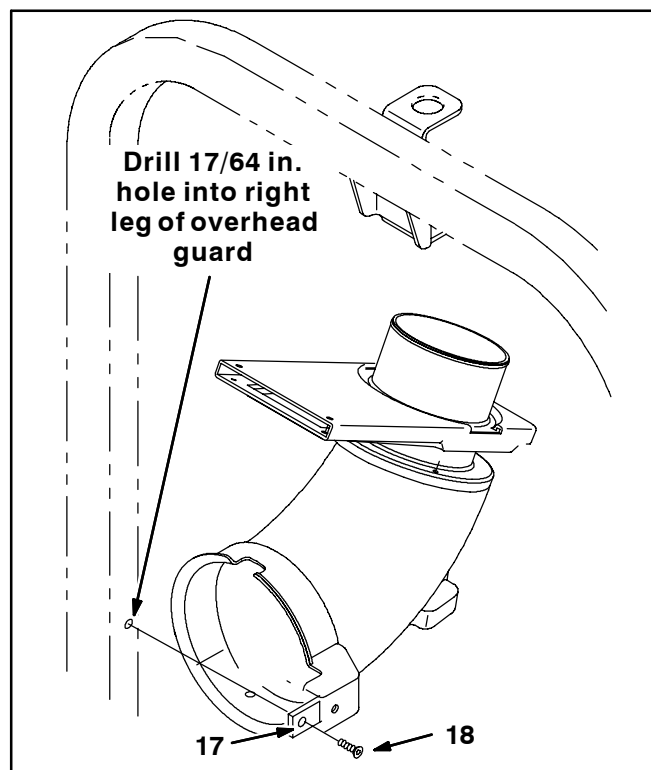

FIG. 6
5. Drill a 17/64 in. hole through the hole in the mounting plate and into the right leg of the overhead guard. Refer to Fig. 6.
6. Use a flat screw (18) to install the mount plate (17) in the upper wand tube (15) onto the leg. Hand tighten hardware. Refer to Fig. 6.